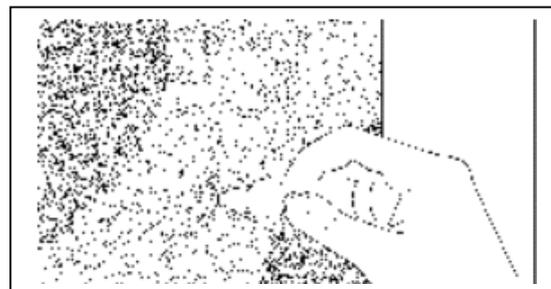

Figure 21. Puncturing Air Release Holes Around
1. Before removing the application tape, use a pin 3M™ Air Release Tool 391X to puncture several holes in the graphic. Or, use a 3M™ Power Grip Multi-Pin Rivet Air Release Tool MPP-1, which requires only one stroke to puncture several holes. Do NOT use a knife or razor blade. See Figure 21.